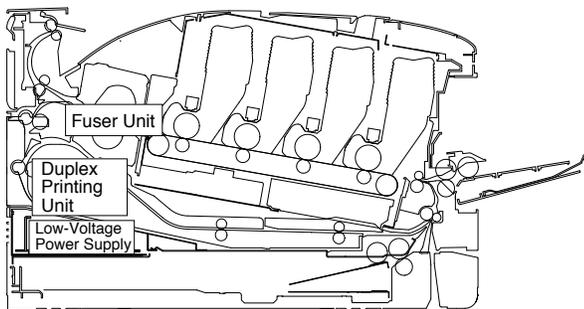

Figure 2. C811/C831/C841 Cross-Sectional View
- 1) Paper passage route was tilted to allow the duplex printing unit and low-voltage power supply to be placed underneath. This reduced the depth and width of the printer (**Figure 2**).